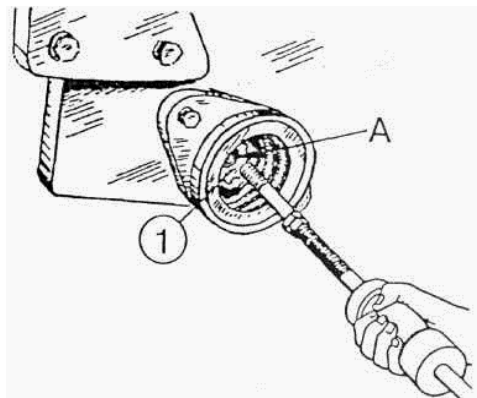

Figure 5.2
- c) screw in threaded opening "A" (Figure 5.2) in the end face of torsion (1) the extractor or 150 – 200 mm long bolt M10 together with ring;